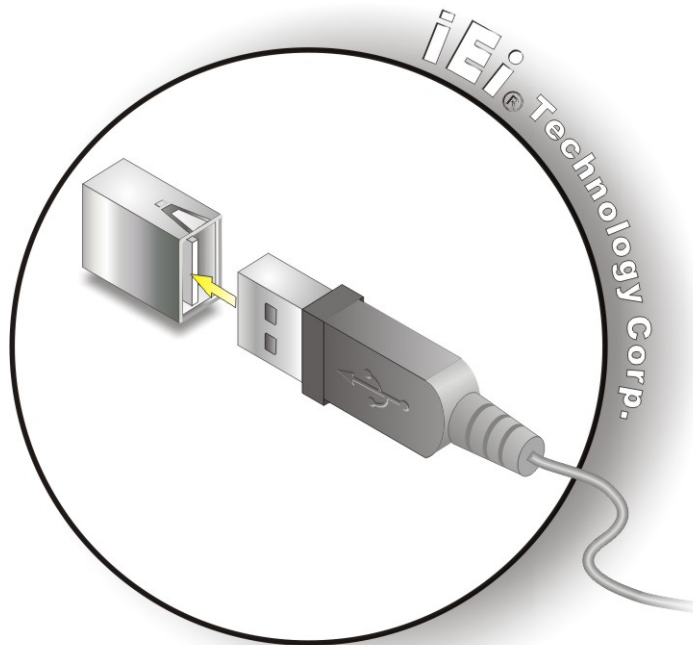

Figure 4-13: USB Device Connection
Step 2: Align the connectors. Align the USB device connector with one of the connectors on the WSB-G41A. See Figure 4-13.